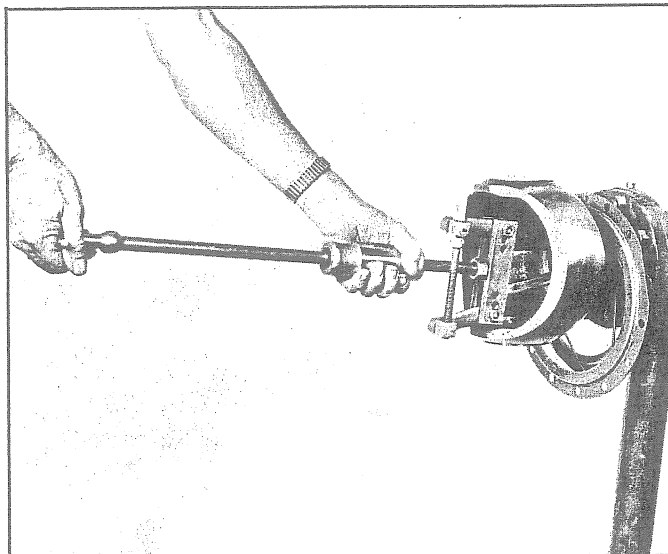

Fig. 17 - Removing Grease Seal
20. Remove seal from outer end of axle housing using a slide hammer arrangement as shown in Fig. 17.